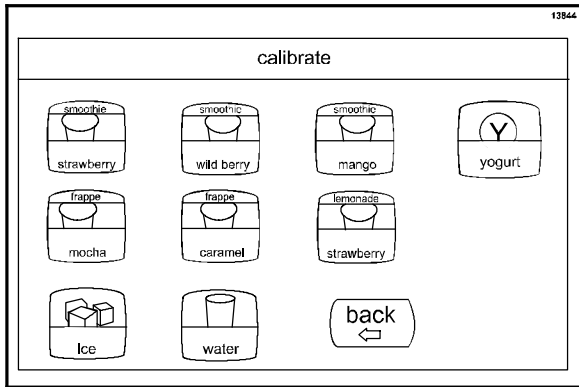

Figure 132
- The Calibrate screen will display. (See Figure 132.)